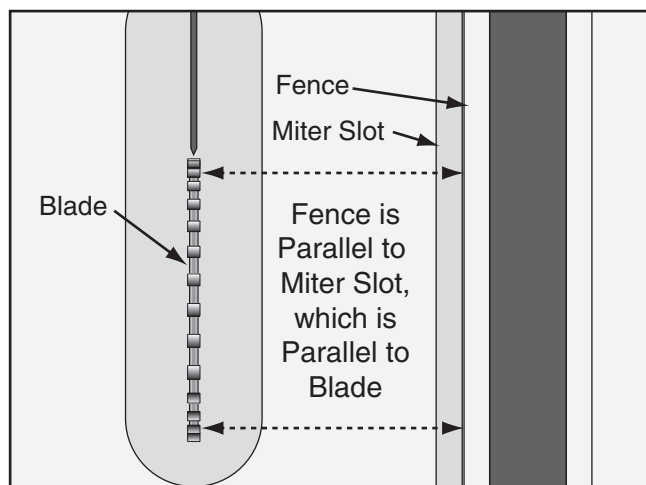

Figure 138. Checking fence parallelism with blade.
2. Slide the fence up against the right hand edge of the miter slot, lock it in place, then raise the blade above the insert. Using a fine ruler, examine how the fence lines up with the miter slot and the blade, as shown in **Figure 138**.
- If the fence and miter slot are parallel with the blade, as shown in **Figure 138**, no further adjustments need to be made.
5. Rotate the blade 180° and recheck the distance between the fence and the blade tooth you marked in **Step 4** to ensure they are parallel (see **Figure 138** on **Page 71**).